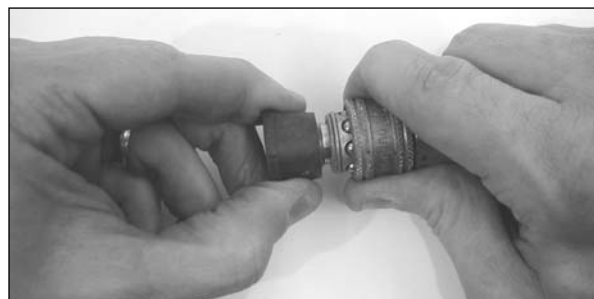

Figure 16 - Quick Connect Tip
3. Use the BLACK 65° quick connect spray tip (all models) (See Figure 16).